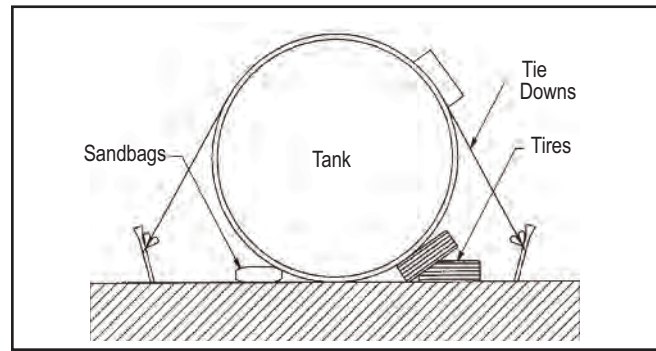

FIGURE 2-3
2.3.1. Whenever a tank is temporarily placed above the ground at the site, place it on a smooth, solid, level area that is clear of large rocks, trash and debris, and then chock it in place to prevent rolling. See *FIGURE 2-3*.
2.3.2. Tie the tank down if high winds are expected. Do not use wire rope or chains. See *FIGURE 2-3*.